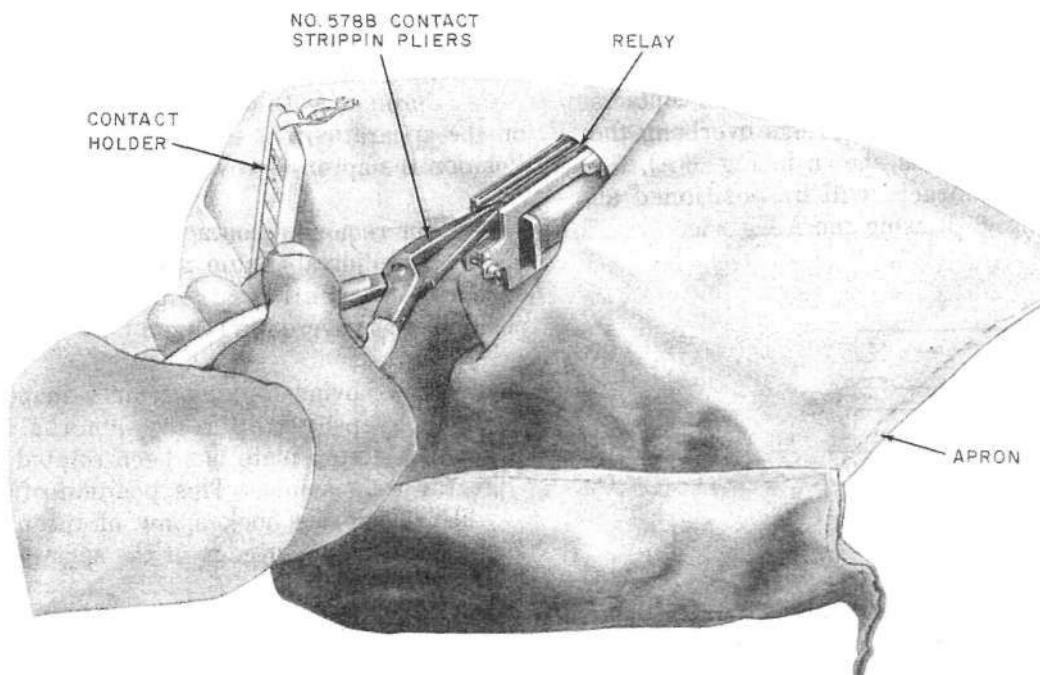

Fig. 7—Removing Contact With 578B Contact Stripping Pliers
4.09 To remove a contact from springs, place the hooked jaw of the proper contact stripping pliers just back of the contact to be removed. Hold the pliers approximately in line with the spring as shown in Fig. 7, except on L-shaped springs of step-by-step relays where the pliers are held at right angles to the tip of the spring. Except on L-shaped springs, see that the front end of the spring is seated in the notched jaw of the pliers. If there is a contact on the side of the spring opposite to that from which a contact is to be removed, take care to position the contact on the opposite side in the notched jaw of the pliers. Remove the contact by compressing the pliers.